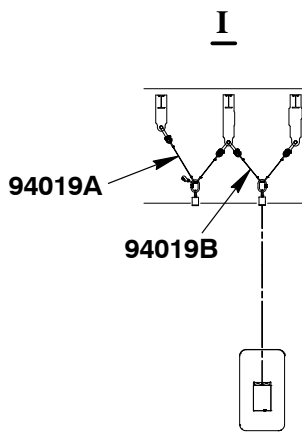

Fig. 23
- 20) Attach the deviation pipe (94117A, Fig. 23) to the column.